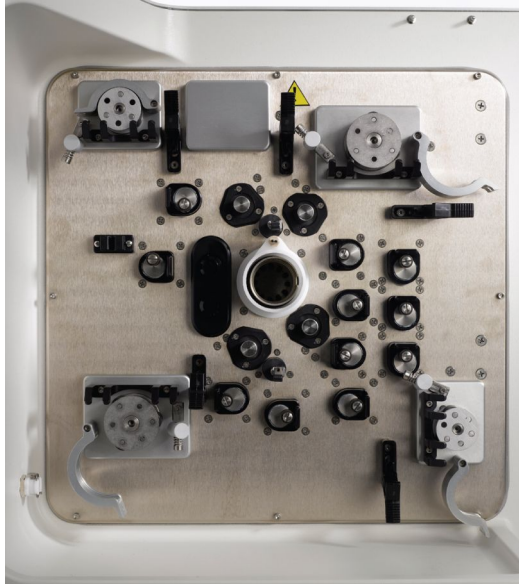

Figure 7-1: Rotor covers open
6. Unlock the rotor latches, and open the rotor covers on the pumps, as shown in Figure 7-1.